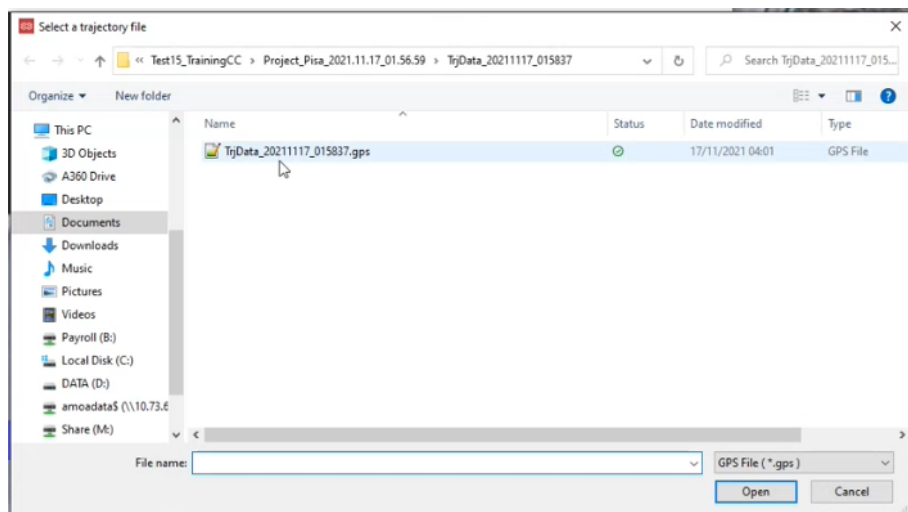

Fig. 56 APS Select trajectory file
3. Associate to each Survey of the project the specific .gps file Fig. 56